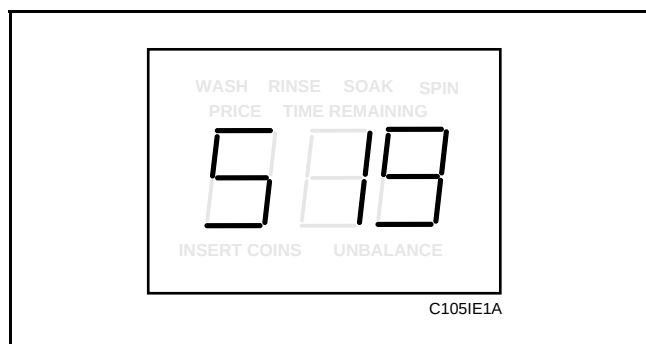

Figure 28
2. While pressing and holding the PERM PRESS keypad with one hand, press the COLD keypad with the other hand. Programmable option number one, “Slg”, will appear in the VFD. See **Figure 28**.